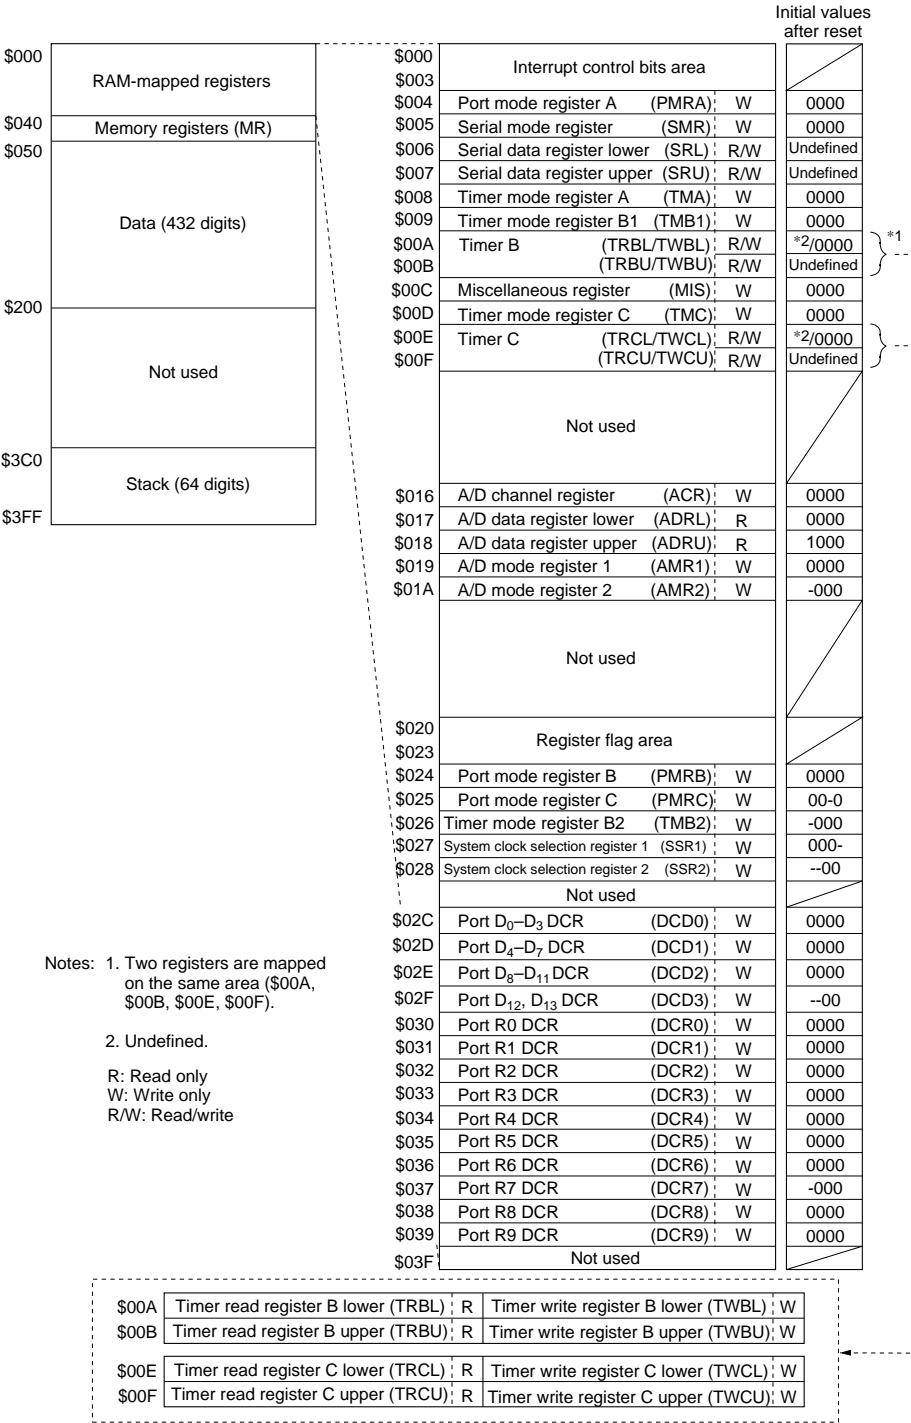

Figure 2 RAM Memory Map
The MCU contains 512-digit × 4 bit RAM areas. These RAM areas consist of a memory register area, a data area, and a stack area. In addition, an interrupt control bits area, special function register area, and register flag area are mapped onto the same RAM memory space labeled as a RAM-mapped register area. The RAM memory map is shown in figure 2 and described below.
This area is used as mode registers and data registers for external interrupts, serial interface, timer/counters, A/D converter, and as data control registers for I/O ports. The structure is shown in figures 2 and 5. These registers can be classified into three types: write-only (W), read-only (R), and read/write (R/W). RAM bit manipulation instructions cannot be used for these registers.